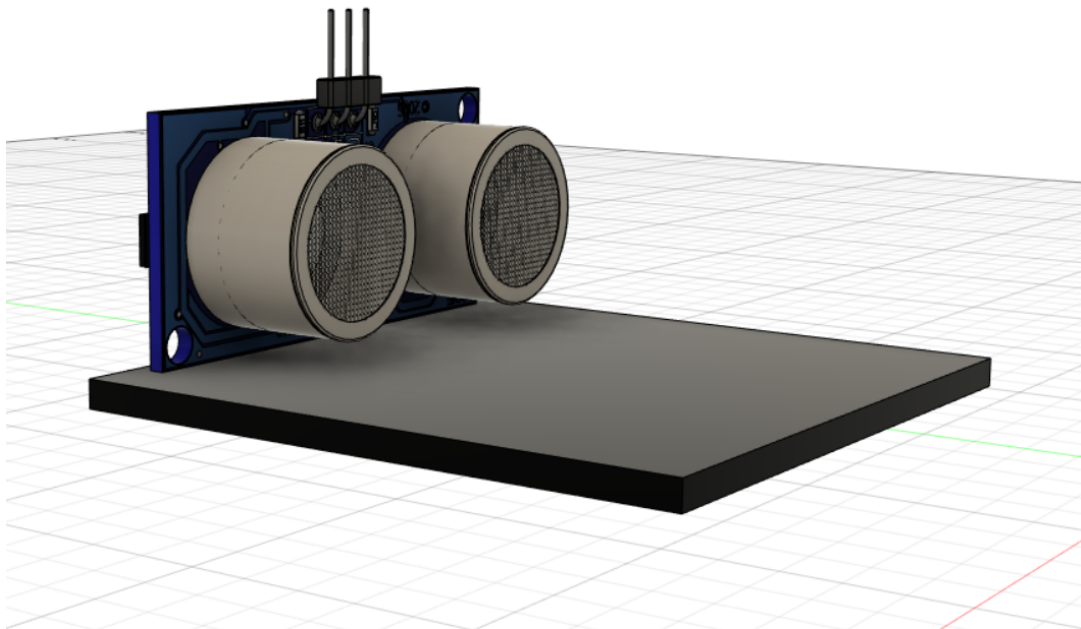

Figure C.2: Ultrasonic Distance Sensor attached to the dumbbell stand
3. Once the two stands are 3D printed, attach the ultrasonic distance sensors to the side wall of the stand, as shown in Figure C.2, using tape or a zip tie